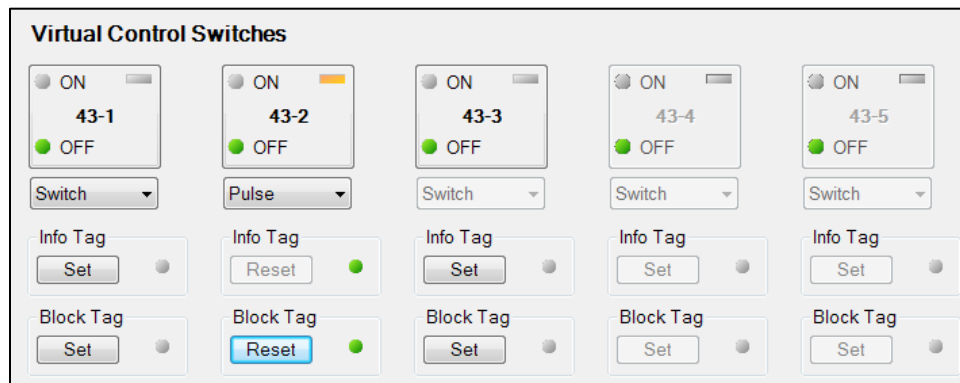

Figure 25-1. Virtual Switches Control Screen
1. Use the Metering Explorer to open the Control/Virtual Switches tree branch (Figure 25-1).
2. If Switch/Pulse mode is selected on the Virtual Control Switches (43) settings screen in BESTCOMSPi.us, use the drop-down box to select either Switch or Pulse.
Tagging of virtual control switches can be accomplished through the front panel and through BESTCOMSPi.us. Use the Metering Explorer in BESTCOMSPi.us to open the Control/Virtual Switches tree branch. Click on the Set button for Info Tag or Block Tag. If tagging is successful, the indicator to the right of the Set button will turn green. A tagged switch is indicated by an amber indicator in the upper right corner of the element button. Click on the Reset button to clear a tag. Refer to Figure 25-1.